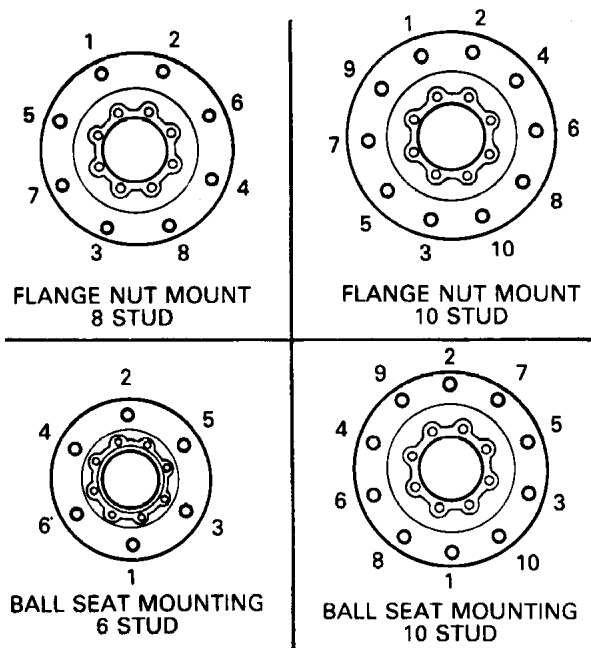

Figure 24 Disc Wheel Tightening Sequence
3. Draw up stud nuts alternately following the sequence (crisscross pattern) illustrated in Figure 24. Do not fully tighten the nuts at this time. This procedure will allow a uniform seating of nuts and insure the even face-to-face contact of wheel and hub.
4. Continue tightening the nuts to the torque value in the TORQUE CHART, using the same alternating method shown in Figure 24 .
4. Draw up nuts alternately following the (crisscross pattern) sequence illustrated in Figure 24 . Do not fully tighten nuts at this time. This procedure will allow uniform seating of nuts and assure even face-to-face contact of wheel and hub.
5. Continue tightening the nuts to values in the TORQUE CHART using the same alternating method shown in Figure 24 .